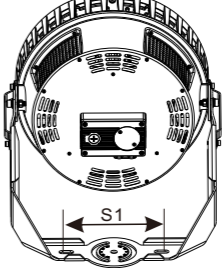

Figure 5
- 1. Mark the hole distance S1 shown in the product to be installed (Figure 5);